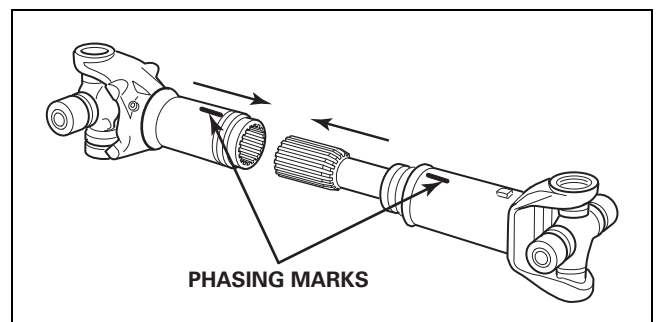

Figure 8.21
5. Align the slip yoke and spline shaft sections with the phasing marks you made on these sections during disassembly. Figure 8.21.
6. Install the spline shaft into the slip yoke until the splines fully engage. Figure 8.21.